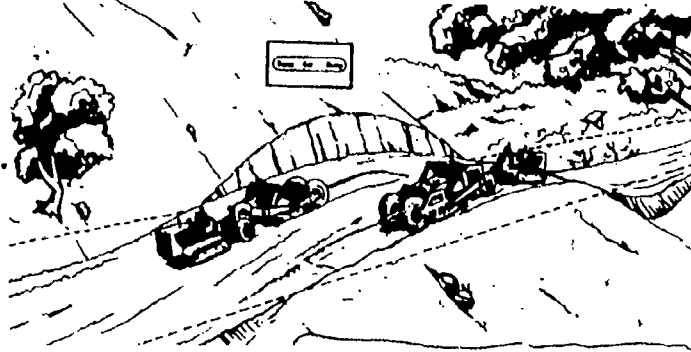

Fig 4-44. Scrapers working from a single cut in two directions to eliminate extra time consumed in turning.
- (3) **Hauling.** The closer the bowl of a traveling, loaded scraper is to the ground, the more stable it will be and the less danger of its turning over. You should therefore travel with the bowl as close as possible to the ground, but high enough to clear any protruding objects on the haul road. Travel to the fill with the prime mover in the highest gear possible without the engine lugging down. Haul roads should be as smooth as possible to eliminate vibration, shock, and wear on both operators and machines. Haul roads should be wide enough for 2-way traffic or a 1-way loop road with frequent turnouts to permit the faster moving units to pass the slower ones. All unnecessary turns should be eliminated. Figures 4-44 through 4-46 illustrate methods of eliminating unnecessary turns and increasing production.